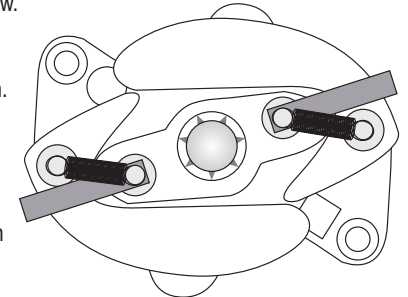

FIGURE 1
- Install one advance limiter on each inner advance pin. (See Figure 1)